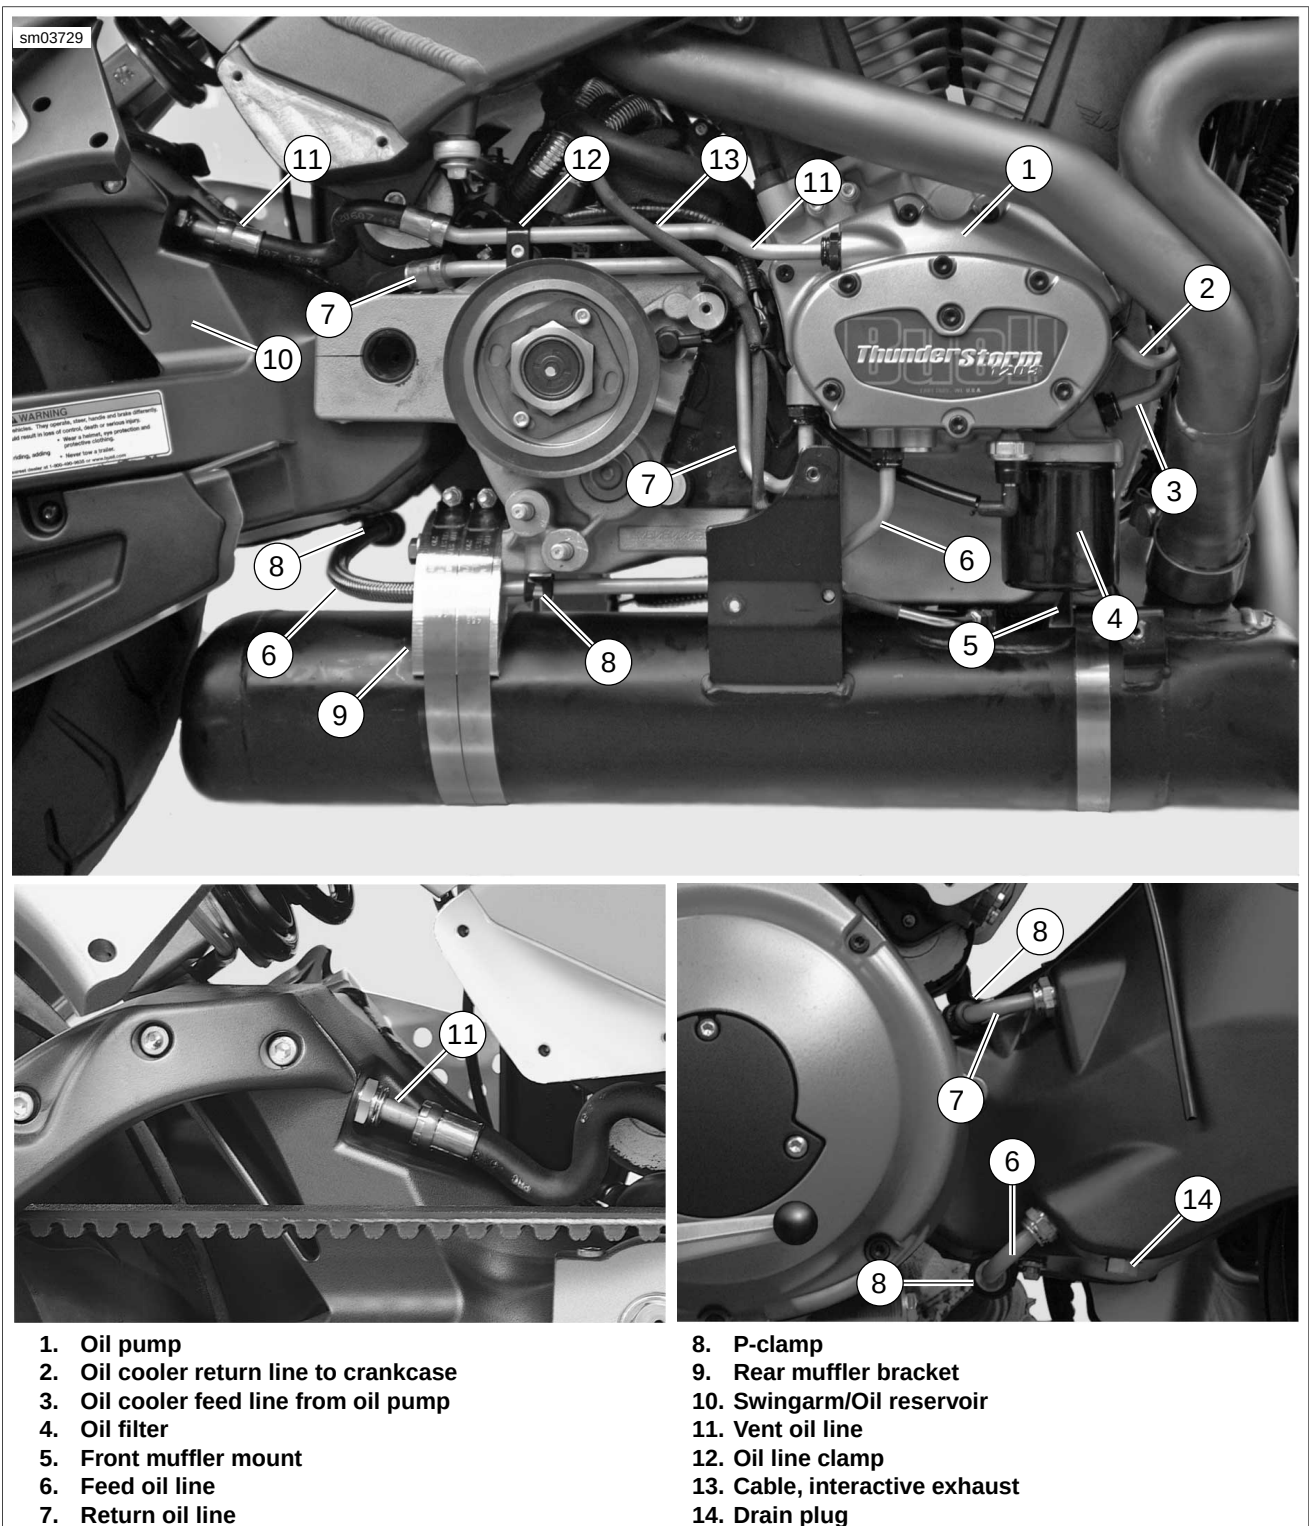

Figure 3-38. Oil Lines and Connections
- See Figure 3-38. The feed oil line is routed through the right side of the rear muffler bracket (7).